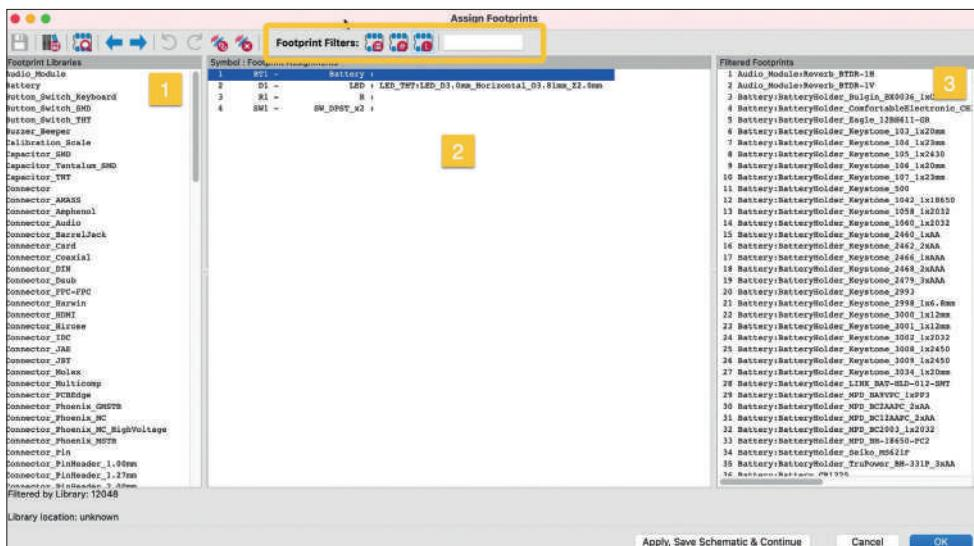

Figure 3.7.9: The Associations tool window.
The associations tool contains three panes (Figure 3.7.9). The middle pane shows the symbols (left side) and their associated footprints (right). The left pane (1) contains a list of footprint libraries, and the right page (3) a list of footprints based on the selected library and the filter settings (top of the window). You can learn how to use the associations tool in detail by reading the dedicated chapter later in this book.